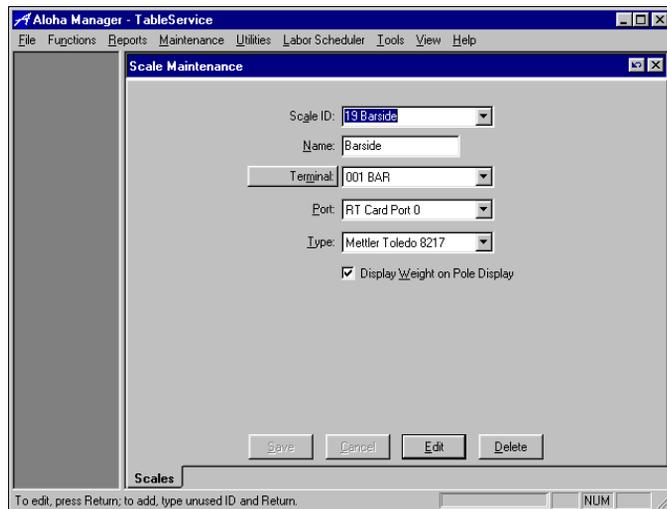

Figure 3-2 Scales Function Tab
2. Select **Maintenance > Hardware > Scales** to display the Scales function tab, as shown in Figure 3-2: